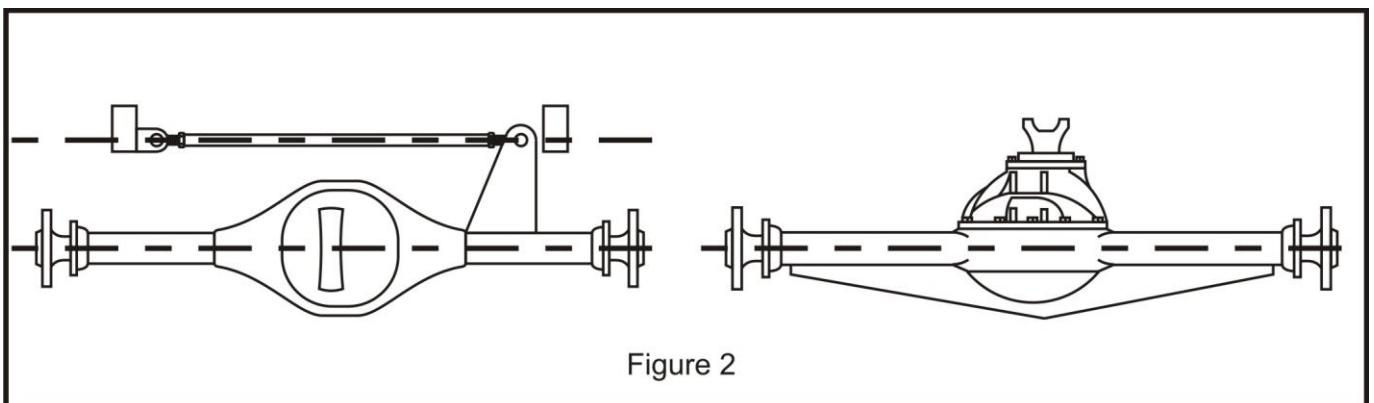

Figure 2
3...Assemble the two chassis tabs with the remaining rod end and hardware. Position and tack weld assembly on the frame so that the hole in the chassis tabs and the hole in the housing brackets are level and square. (See Figure 2).
4...Assemble rod ends into the pan hard bar and install in mounts. Check to make sure that pan hard bar is level and square with the rear end housing at ride height. Once satisfied, remove the pan hard bar assembly and final weld all tabs and brackets. (See Figure 2).